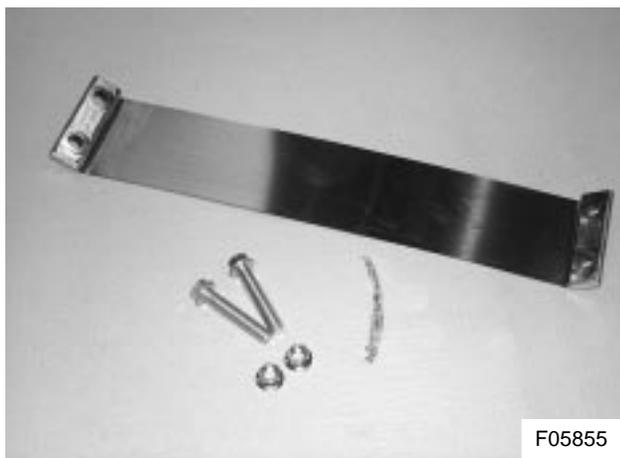

Figure 15: Downpipe to muffler elbow seal clamp VH 10657119
- 3) Secure the downpipe to the turbo exhaust mouth with the recovered clamp. Tighten to a torque of 72 in.lbf (8 Nm). Install a new seal clamp (see Figure 15) at the downpipe to muffler elbow connection. Proceed as follows: